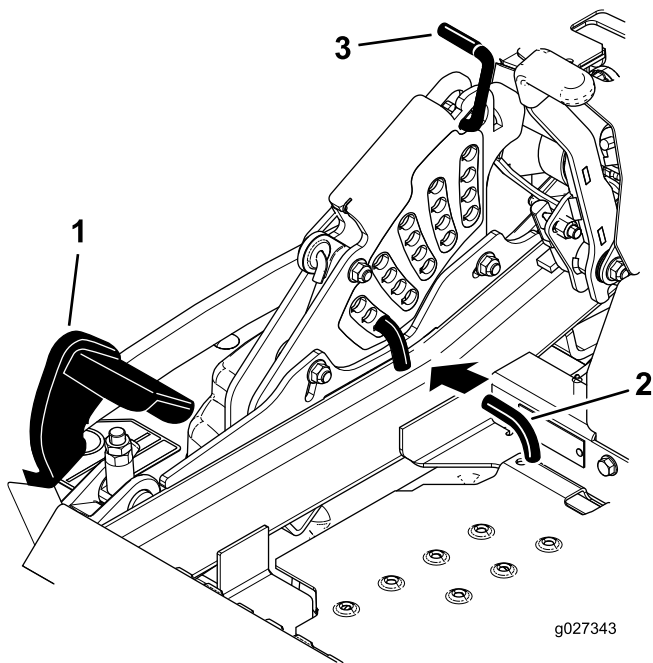

Figure 85
5. Push the deck lift pedal all the way forward and the deck will latch at the 14 cm (5-1/2 inch) transport position (Figure 85).